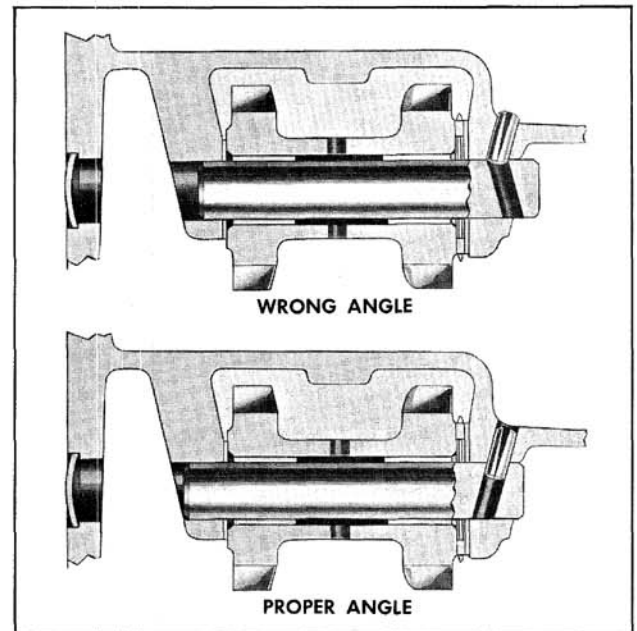

Fig. 7-17 Reverse Idler Gear Shaft and Lock Pin
1. Coat thrust washers and the needle thrust bearing with grease and position them on gear; needle bearing against end with chamfered gear teeth; large washer against bearing; small washer at opposite end of gear. (Fig. 7-17) Coat bushings with wheel bearing grease.